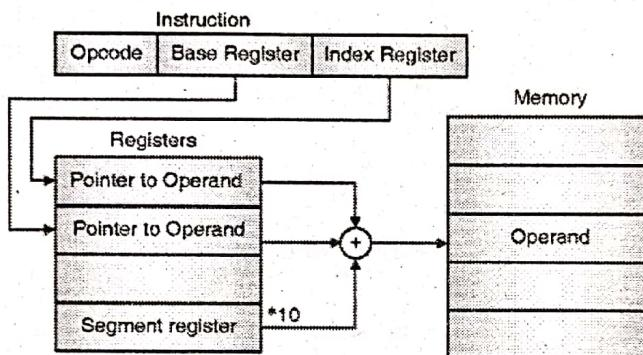

Fig. 8- Q. 5(a) : Based indexed addressing mode
- In this addressing mode the effective address is given by a base register and an index register, specified in the instruction. This effective address is added with the segment register * 10H to generate the physical address as shown in Fig. 8- Q. 5(a).